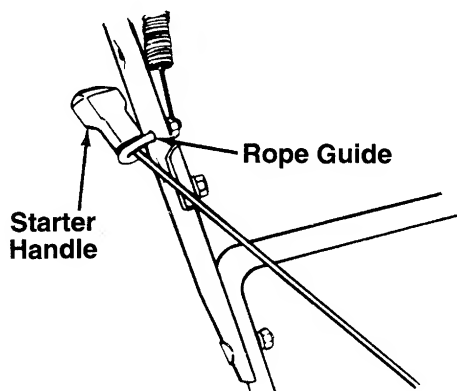

FIGURE 7.
- ← 3. Place the rope guide around the starter rope, so the rope guide is positioned as shown (bends downward slightly). See figure 7. Insert the rope guide through the right side of the upper handle, above the cable bracket, and secure with hex lock nut.